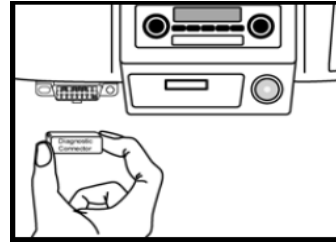

Figure 3
1. Locate the vehicle Diagnostic Link Connector (DLC) and make sure that the ignition switch is in OFF position. (Figure 3)